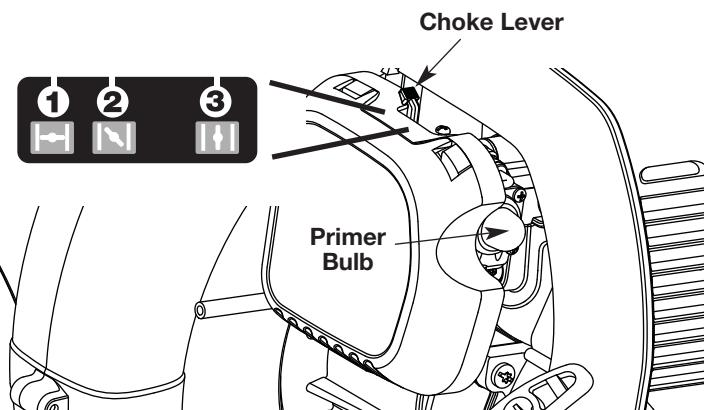
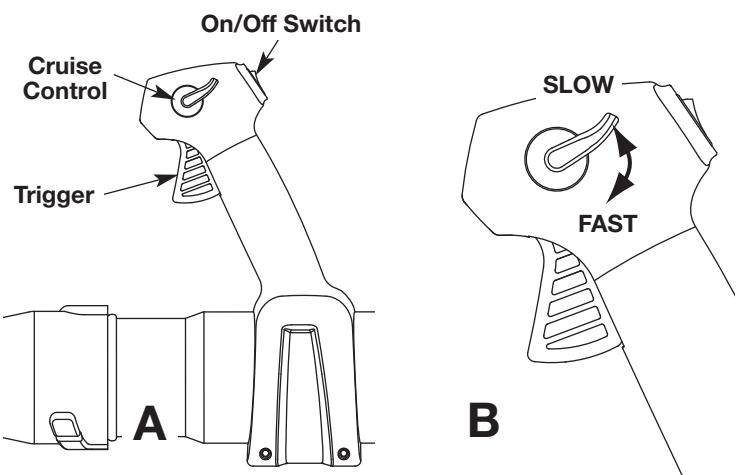
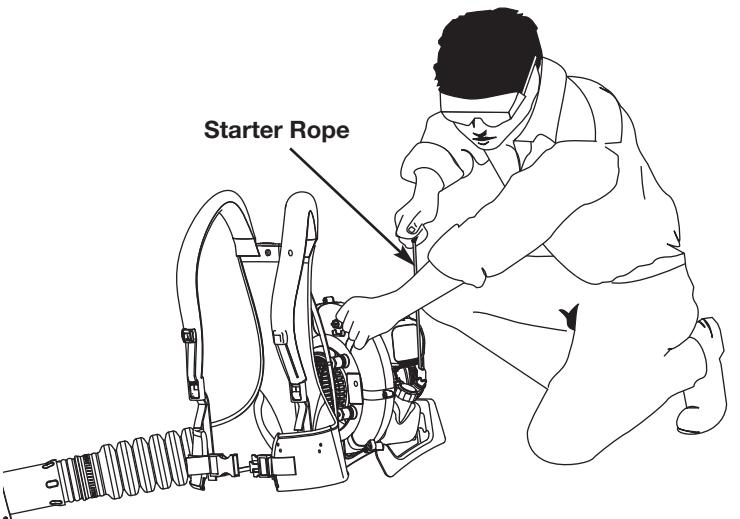

Fig. 14
Fig. 15
Fig. 16
WARNING: Avoid accidental starting. Make sure you are in the starting position when pulling the starter rope (Fig. 16). To avoid serious injury, the operator and unit must be in a stable position while starting. To avoid serious personal injury, make sure that the blower tube is locked in place or firmly installed.
3. Fully press and release the primer bulb **10** times, slowly. Some amount of fuel should be visible in the primer bulb (Fig. 14). If fuel cannot be seen in the bulb, press and release the bulb until fuel is visible.
4. Move the choke lever to **Position 1** (Fig. 14).
NOTE: The unit should be started in idle. Do not squeeze the trigger until step 8 (Fig. 15, A).
5. **Do not squeeze the trigger.** Crouch in the starting position (Fig. 16). Pull the starter rope **5** times in a controlled motion.
6. Move the choke lever to **Position 2** (Fig. 14).
8. Squeeze and hold the trigger, or press down the cruise control (Fig. 15, A), and allow the engine to warm up for 30 to 60 seconds.
Position 3 (Fig. 14) and continue warming the engine for an additional 60 seconds. During this time the unit may be used.
2. Press and hold the On/Off switch in the OFF (O) position until the unit comes to a complete stop (Fig. 15, A).
1. Once the engine has started and warmed up, squeeze the trigger to accelerate the unit as needed (Fig. 15, A).
2. For longer periods of operation and to eliminate possible finger fatigue, move the cruise control toward the **FAST** position to incrementally increase or maintain the unit's engine speed (Fig. 15, B). When the cruise control is pressed, the trigger will recede into the handle.
3. To decrease engine speed, move the cruise control to the **SLOW** position and the trigger will return to idle position (Fig. 15, B).
- NOTE:** There is no need to turn the unit on. The On/Off Control is in the ON (I) position at all times.
- NOTE:** The unit should be started in idle. Do not squeeze the trigger until step 10 (Fig. 15, A).
5. Crouch in the starting position (Fig. 16). Insert the electric starter or Power Start Bit™ into the back of the unit (Fig. 32). Refer to the *Operation* section of the Electric Starter or Power Start Bit™ operator's manual.
6. **Do not squeeze the trigger.** Press and hold the electric starter or drill's ON (I) button for 2 seconds.
7. Move the choke lever to **Position 2** (Fig. 14).
8. **Do not squeeze the trigger.** Press and hold the electric starter or drill's ON (I) button for 2-second intervals until the unit starts.
10. Squeeze and hold the trigger, or press down the cruise control (Fig. 15, A), and allow the engine to warm up for 30 to 60 seconds.
11. **Continue to squeeze the trigger.** Move the choke lever to **Position 3** (Fig. 14) and continue warming the engine for an additional 60 seconds. During this time the unit may be used.
2. For longer periods of operation and to eliminate possible finger fatigue, move the cruise control toward the FAST position to incrementally increase or maintain the unit's engine speed (Fig. 15, B). When the cruise control is pressed, the trigger will recede into the handle.
3. To decrease engine speed, move the cruise control to the SLOW position and the trigger will return to idle position (Fig. 15, B).
- Use the cruise control (Fig. 15) to keep the trigger depressed while operating to make continuous operation easier.